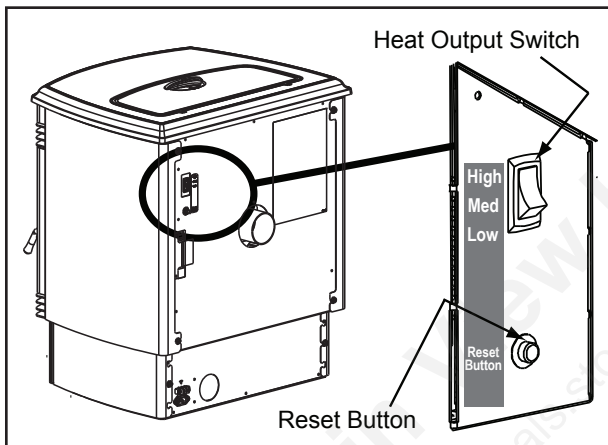
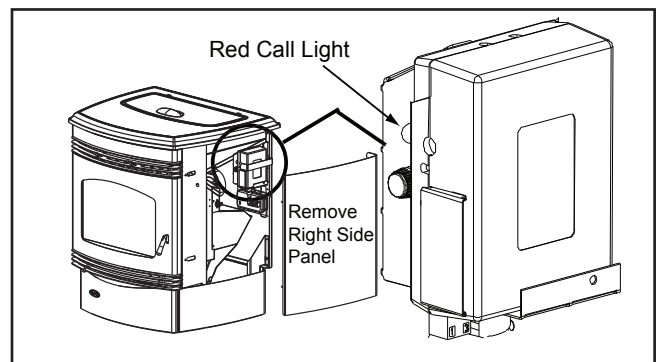

Figure 24.1
Figure 24.2
3. Locate the heat output control switch mounted on the back of the appliance in the upper right corner. **Figure 24.1.** Turn it to the "high" setting by pushing the top of the control switch in and then adjust the thermostat to its highest setting. Remove the right side panel and the red call light located to the left of the control box will be on. **Figure 24.2.** This indicates the thermostat is calling for heat.
3. Occasionally the appliance may run out of fuel and shut itself down. When this happens, the red call light will be on. **See Figure 24.2, page 24.** To restart it, fill the hopper and press the reset button. **See Figure 24.1, page 24.** When you press the reset button the red call light will go out. Release the button and the light will come back on. You should see a fire shortly. If not, follow the instructions on **page 24**, of “Starting Your First Fire”.